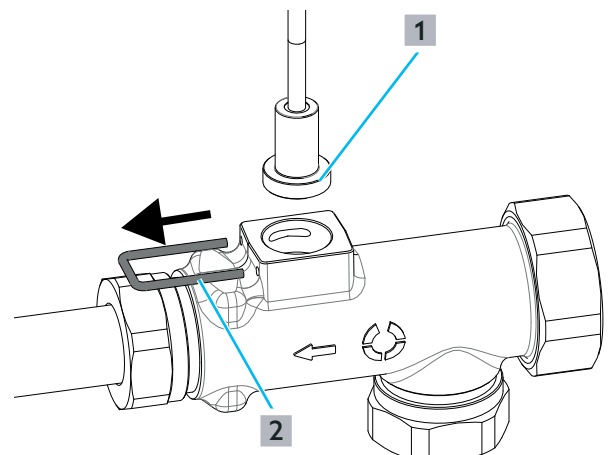

Fig. 21: Loosening the safety clip
- 4 Loosen the safety clip ((2) in Fig. 21 on page 30) at the volume flow sensor (1).